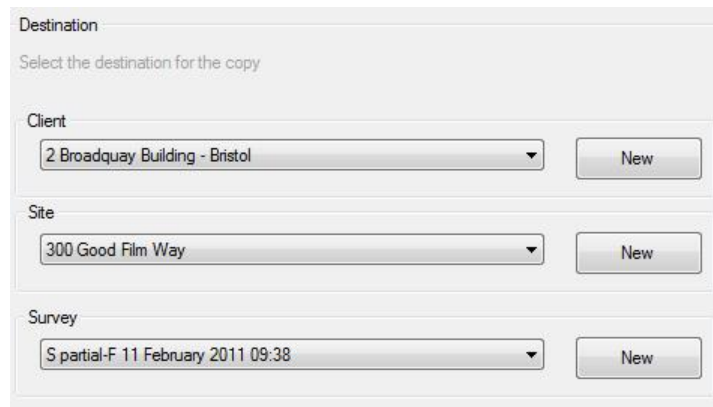

Figure 3.17 Entering the Survey details
- Use the Client, Site and Survey dropdown boxes to select the client, site and survey where you want to import the selected file (see Figure 3.17). You can also press **New** to define new details